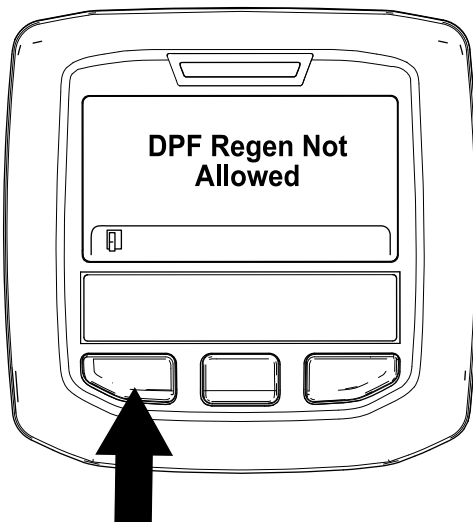

Figure 41
- If the regeneration process is not allowed by the engine computer, the "DPF Regen Not Allowed" message displays in the InfoCenter (Figure 41). Press the left button to exit to the home screen